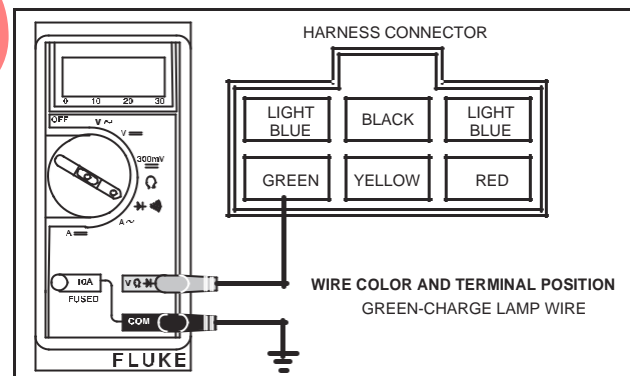

Fig. 18 – Testing Bulb And Wiring
2. Check continuity between charging indicator wire (green) and ground, Fig. 18.